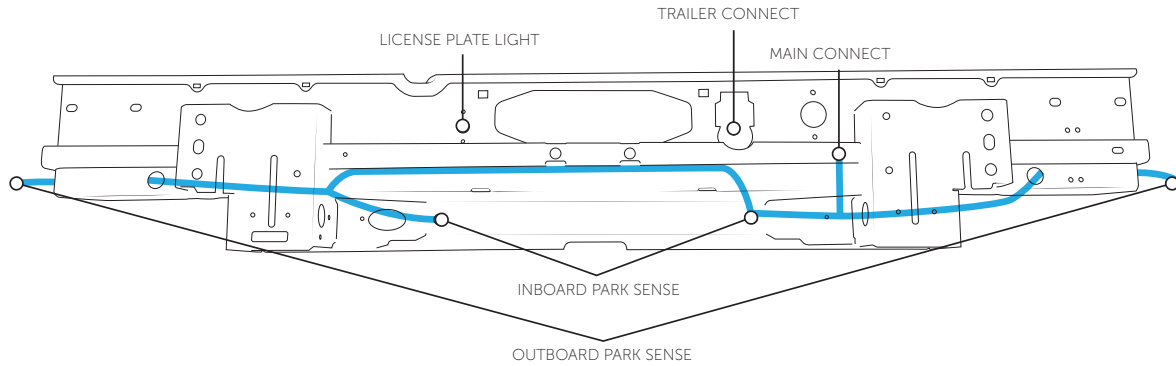

Figure 16
3. Lay the harness into position on AEV Center Section placing connectors in locations shown (figure 16).